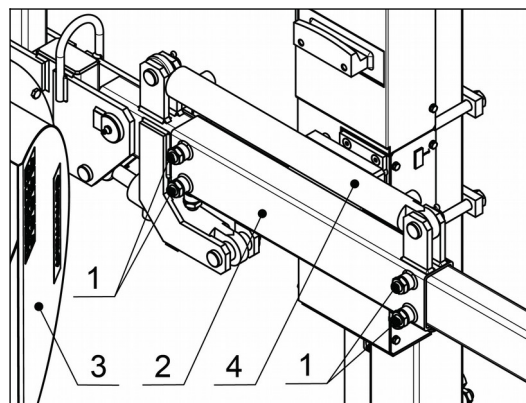

Fig. 64
1. Secure the carrying arm (Fig. 64, No. 3) against movement.
2. Loose the bolts nuts (Fig. 64, No. 1)
4. Reinsert the bolts (Fig. 64, No. 1) and adjust the sliders clearance as described in section 11.7.2.
5. Tight the bolts nuts (Fig. 64, No. 1).